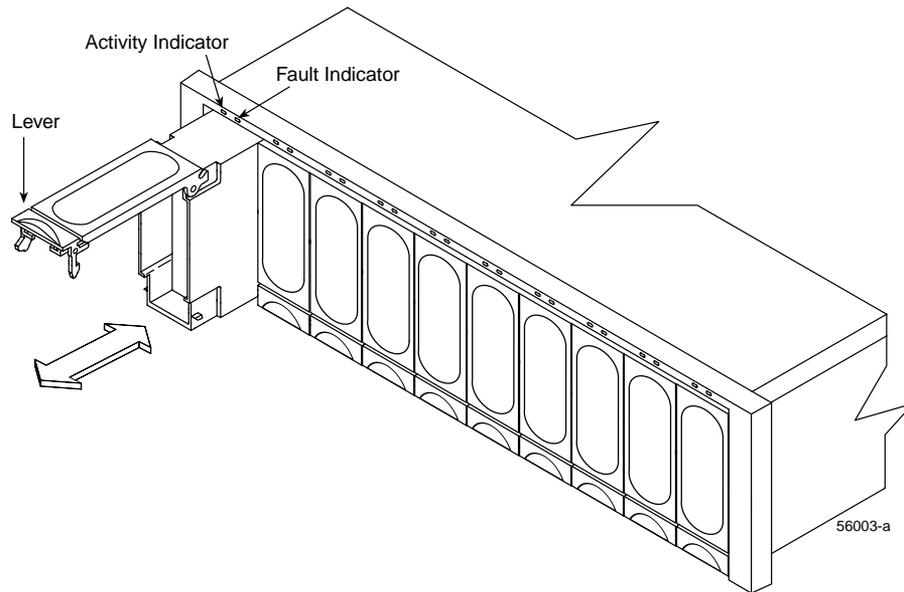

Figure 7-1 Removing and Installing a Drive Sled
4. Pull out the drive sled (Figure 7-1).